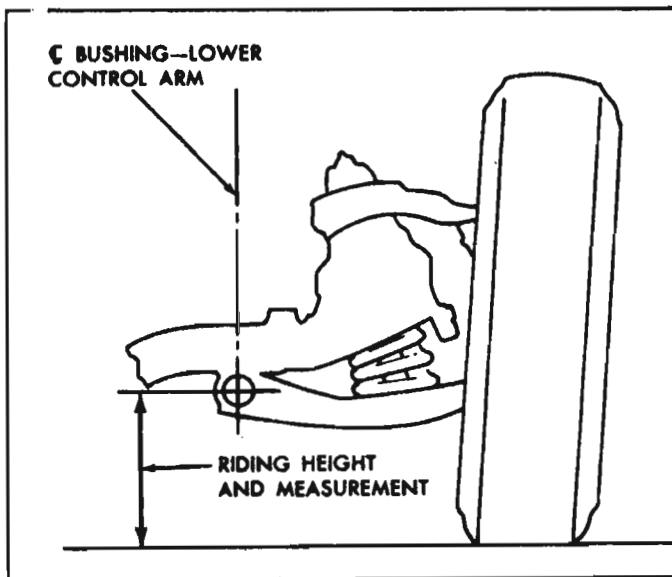

Fig. 3-55—Front Pivot Height
2. Front height may be checked by measuring the distance from the center of lower control arm pivot bolt to floor (fig. 3-55). This distance should be $11\frac{1}{8}'' \pm \frac{1}{8}''$ with vehicle at curb weight. Measure both sides of vehicle in this manner; the resulting measurements should be within $\frac{1}{2}''$ of each other.